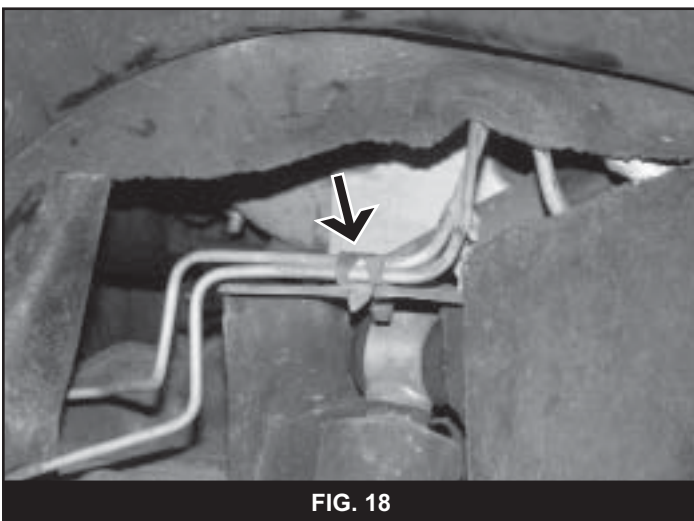

FIG. 18
28. Remove the bolt mounting the brake lines to the driver's side shock mount (Fig 18).